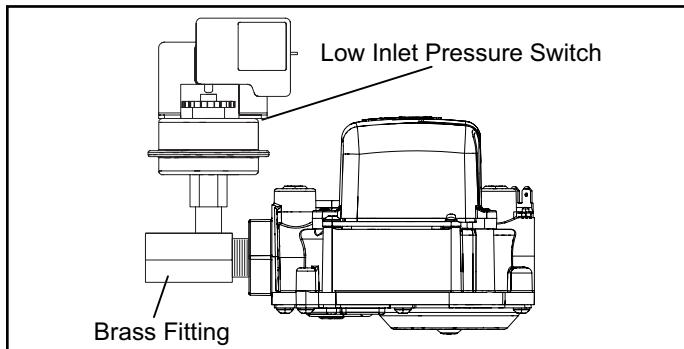
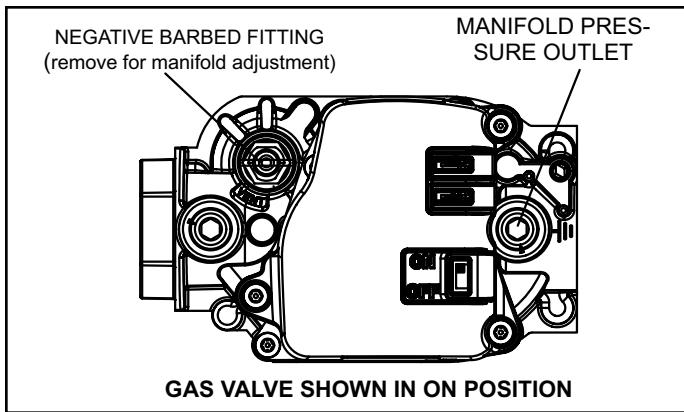

Figure 2. Gas Valve with Low Inlet Pressure Switch Location
Figure 3. Gas Valve
2. Remove the heating compartment access panel. Turn the automatic gas valve switch to the OFF position. See Figure 2 and Figure 3.
9. Thread provided brass fitting to gas valve inlet until hand tight. Using properly sized wrench, tighten fitting 2 to 3 full turns being careful to position the side port to allow clearance for the pressure switch and harness. See Figure 2.
NOTE: Some installations may require the pressure switch and fitting assembly to be positioned differently than shown in Figure 2.
6. Move gas valve switch to **OFF**. See Figure 3.
7. Wait five (5) minutes for any gas to clear out. If you then smell gas, **STOP!** Immediately call your gas supplier from a neighbor's phone. Follow the gas supplier's instructions. If you do not smell gas, go to the next step.
8. Move gas valve switch to **ON**. See Figure 3.
When testing supply gas pressure, use the 1/8" N.P.T. supply line tap located on the gas valve to facilitate test gauge connection. See Figure 2. Check gas line pressure with unit firing at maximum rate. Low pressure may result in erratic operation or underfire. High pressure can result in permanent damage to gas valve or overfire.
1. Connect test gauge to manifold pressure tap (Figure 2) on gas valve.
4. If necessary, make adjustments. Figure 2 shows location of adjustment screw.